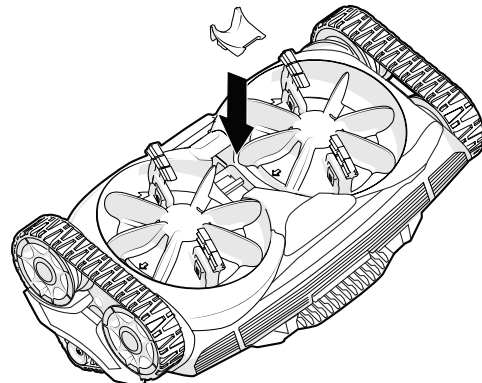

Figure 11. Replace Modular Inlet Adapter
2. Push down on the modular inlet adapter until it clicks into place (Figure 11).